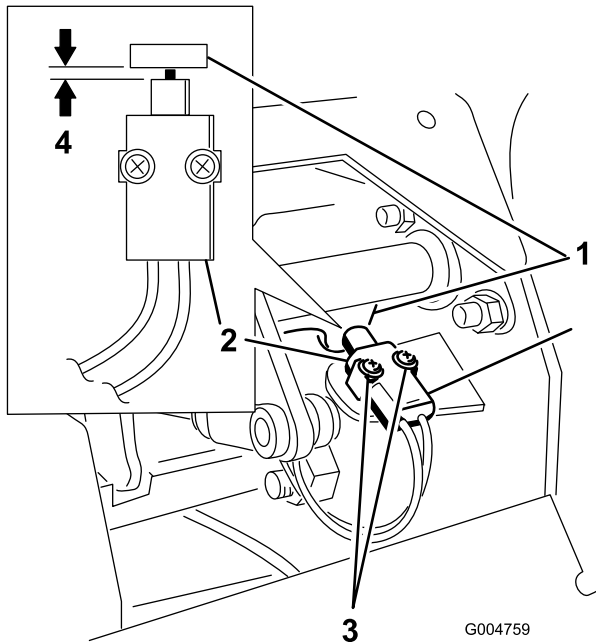

Figure 52
4. Move the switch toward the tab on the brake shaft until the distance between the tab and switch body is 0.015 to 0.045 inch (0.4 to 1 mm) (Figure 52).